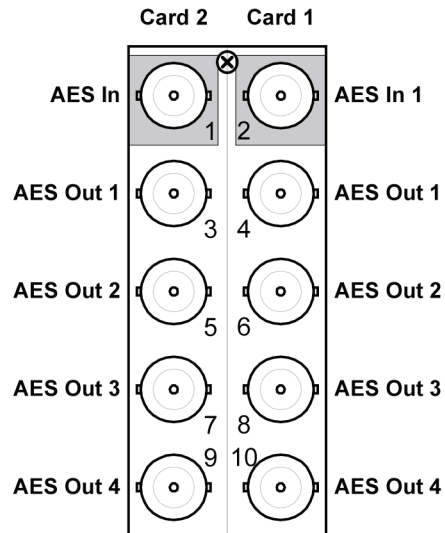

Figure 5. Cable Connections for the DFR-8320 frames with the R2AS-8401 Rear Module
- **R2AS-8401 Split Rear Module** — Each card occupies one slot and provides four outputs. Note that each Split Rear Module provides connections for two cards. Refer to **Figure 5** for cable connections.